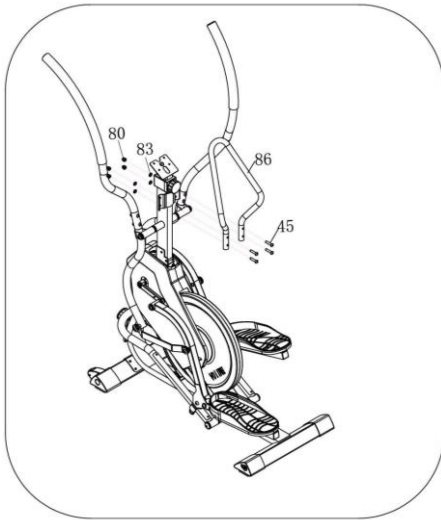

Figure 8
Use wrench(93) and wrench (105), Lock the Middle Handle Bar(86) onto the Main Frame by 4pcs Bolt (45) , 4pcs Nut (80) and 4pcs Washer(83), as shown in Figure 8.